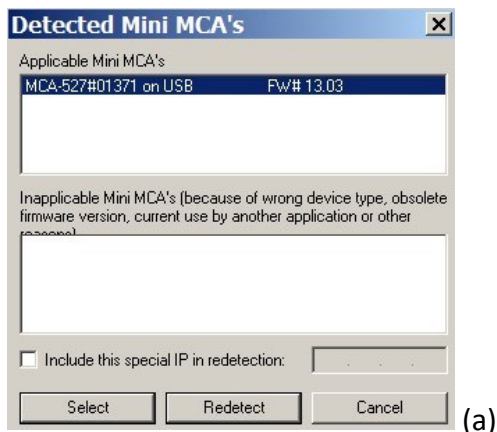

Fig. 9. Window of detected MCAs (a) and Start window of WinSPEC (b).
- 4 Start **“WinSPEC for inspectors”**. The program starts with the detection of available MCAs. Detected MCAs are displayed in a list within the communication build up dialog. If your μ SPEC is listed, mark it and press **“Select”** (see Fig. 9). The WinSPEC picture will appear and then the next window displayed. Select **“Yes”**.